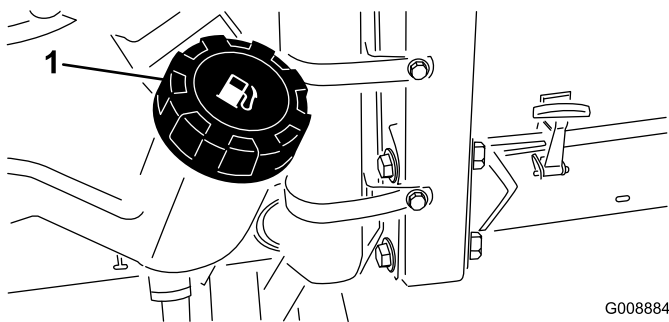

Figure 27
1. Clean the area around the fuel tank cap (Figure 27).